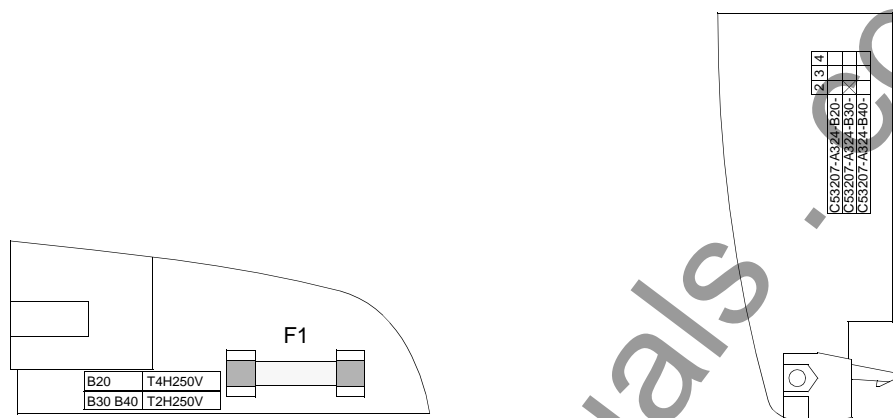

Figure 9-5 Power supply mini-fuse on the input/output printed circuit board C-I/O-1
- ☐ Has the fuse in the power supply not blown. The location of the fuse is shown in Figure 9-5. If the fuse needs to be replaced, see Sub-section 9.5.2.
This data is printed on the module next to the fuse (see Figure 9-5). The type of fuse depends on the auxiliary supply voltage, e.g. for 24 to 48 VDC the fuse type "T4H250V" according to IEC 60127-2 is required (refer to Table 9-1). To maintain the UL-approval, only UL approved fuses may be used (e.g. Messrs. Wickmann. type 181).
- ☐ Remove the defective fuse. Figure 9-5 illustrates the fuse.